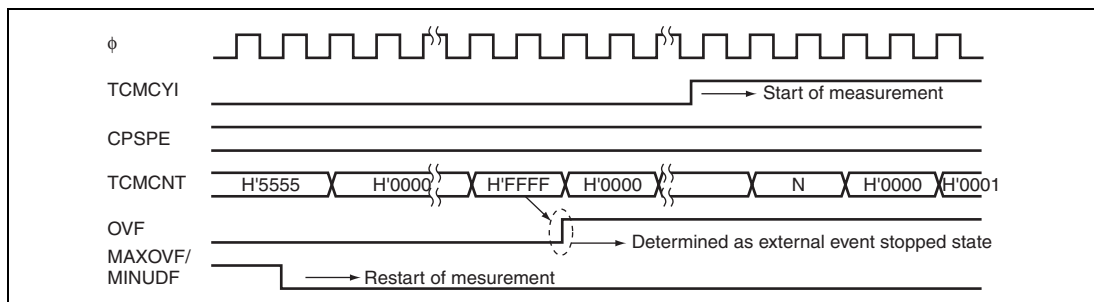

**Figure 11.11 Example of Timing in External Event Stopped State (2)**
Figure 11.11 shows an example of the timing of the external event stopped state (2).